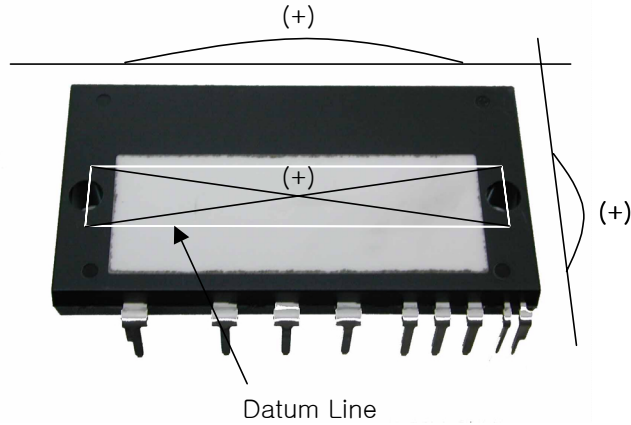

**Fig. 6.  $R_{sc}$  Variation by change of Shunt Resistors ( $R_{SU}, R_{SV}, R_{SW}$ ) for Short-Circuit Protection**
- Short-circuit current protection is functioning only at the low-sides. It would be recommended that the value of the external sensing resistor (RSC) should be selected around 56 Ω in order to make the SC trip-level of about 30A at the shunt resistors (RSU, RSV, RSW) of 0Ω. For the detailed information about the relationship between the external sensing resistor (RSC) and the shunt resistors (RSU, RSV, RSW), please see Fig. 6.